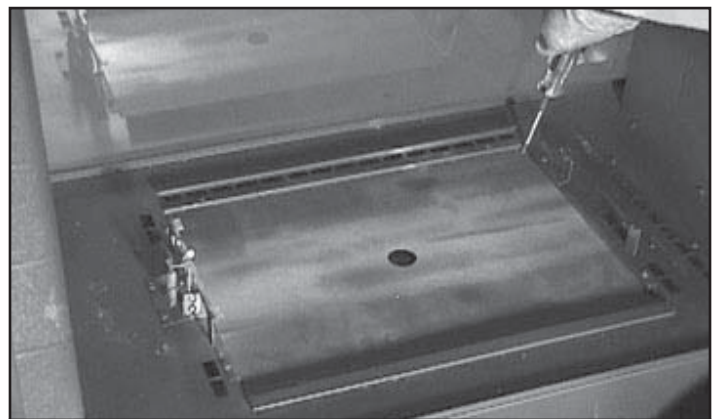

Figure 10.6 Remove Sheet Metal Cover Plate
- Remove the sheet metal cover plate by unscrewing the two screws located in the corners. See Figure 10.6.